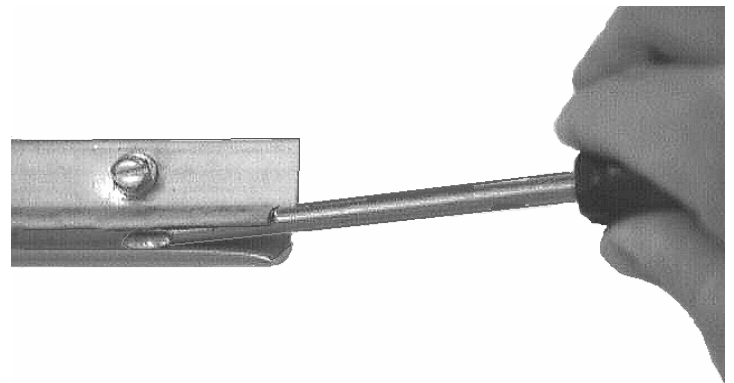

figure 1
B. Be sure the awning rail is straight. Use a screwdriver to spread open the awning rail on the side the awning will be installed into (**figure 1**). Use a file to smooth the edges of the opening to avoid damaging the fabric.